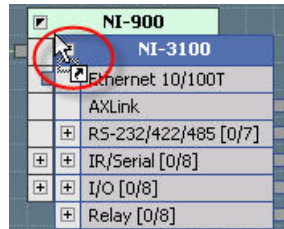

FIG. 84 Replace icon
2. When the replacement Controller is positioned correctly to replace the existing one, the Replace icon is displayed on the cursor (FIG. 84):